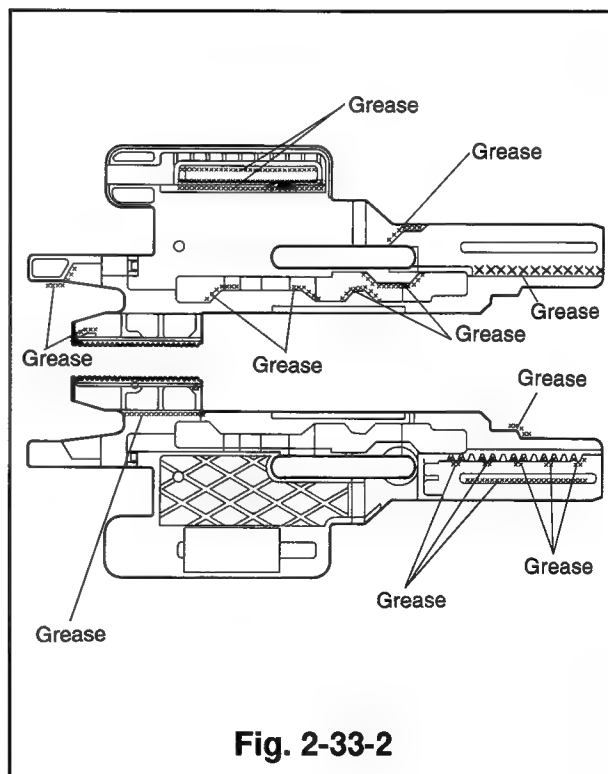

Fig. 2-33-2
- ① Apply grease (G)[859D055O50] to the area shown in Fig. 2-33-2 of the new cam plate B.